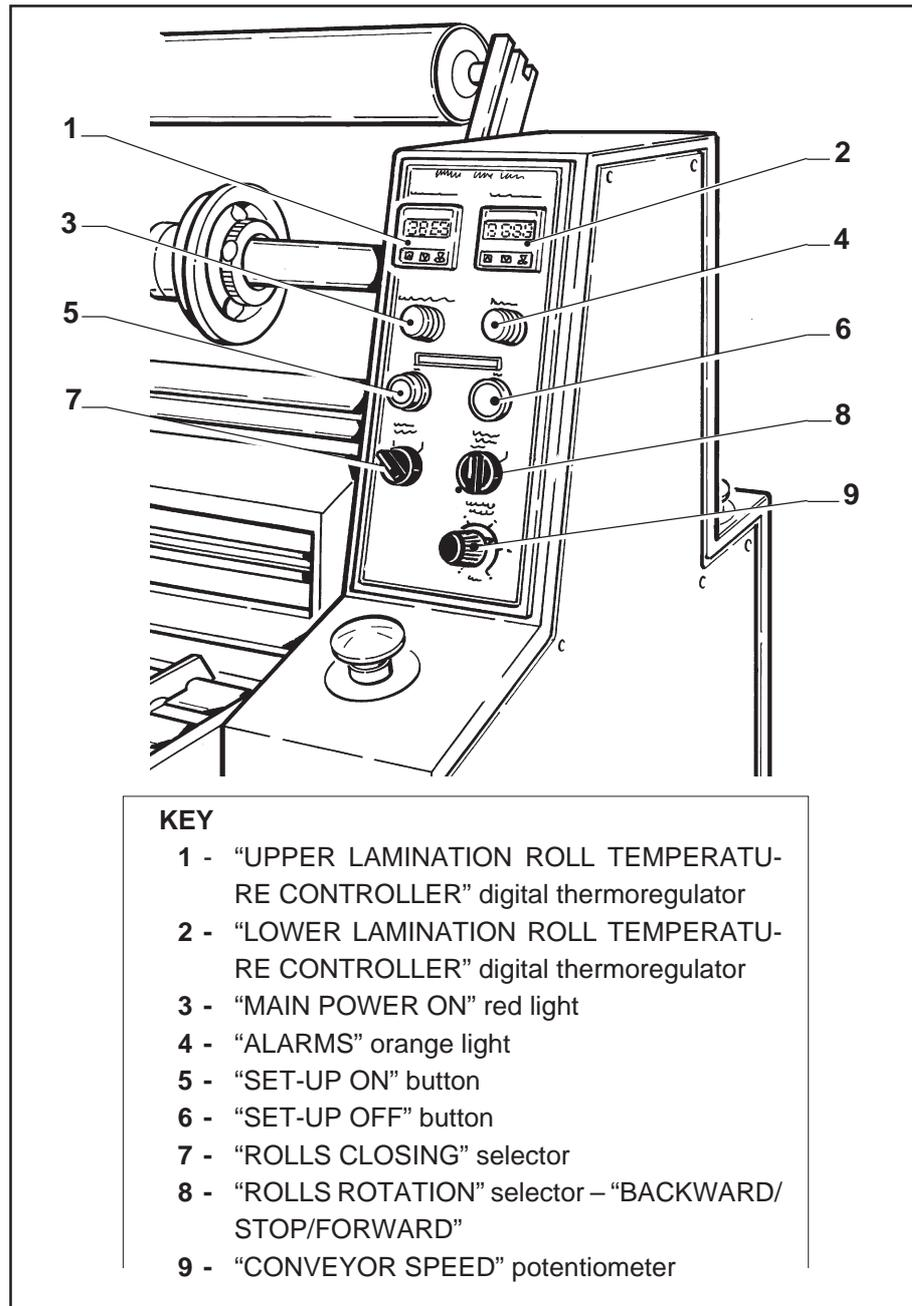

Fig.6 - CONTROL PANEL
2.1 - CONTROL PANEL (Fig. 6)
- **UPPER AND LOWER ROLL TEMPERATURE CONTROL (pos. 1 and 2 - fig. 6)**
- **“MAIN POWER ON” red warning light (pos. 3 - fig. 6)**